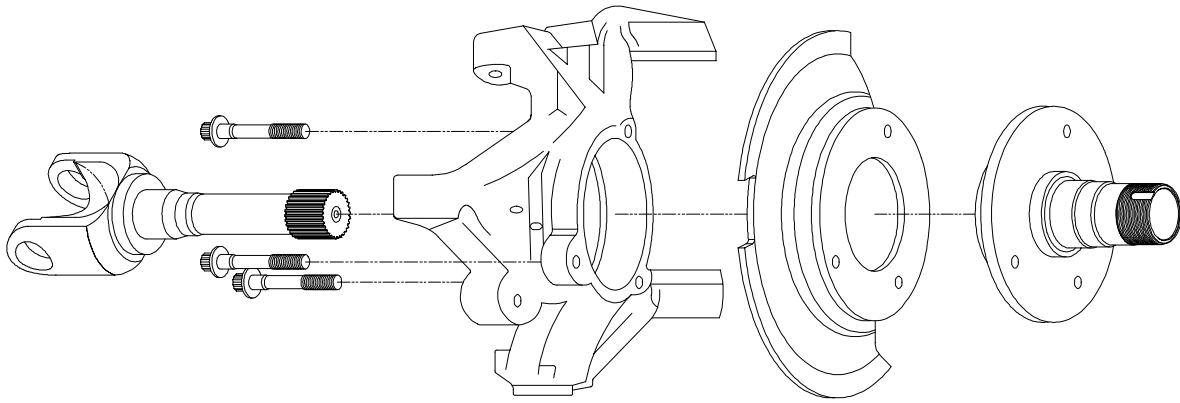

Figure 4. Exploded knuckle
7. Remove 3 bolts retaining the original hub (using 13 mm 12 pt socket) and bearing assembly. Do not disassemble the bearing assembly from axle shaft. See Figure 4. (For location reference only)
8. Remove axle shafts, brake shield, hub and bearing pack. See Figure 4.
17. Place spindle over outer axle shaft and bolt on to steering knuckle. Torque 3 bolts to 75 ft. lbs. See Figure 4.